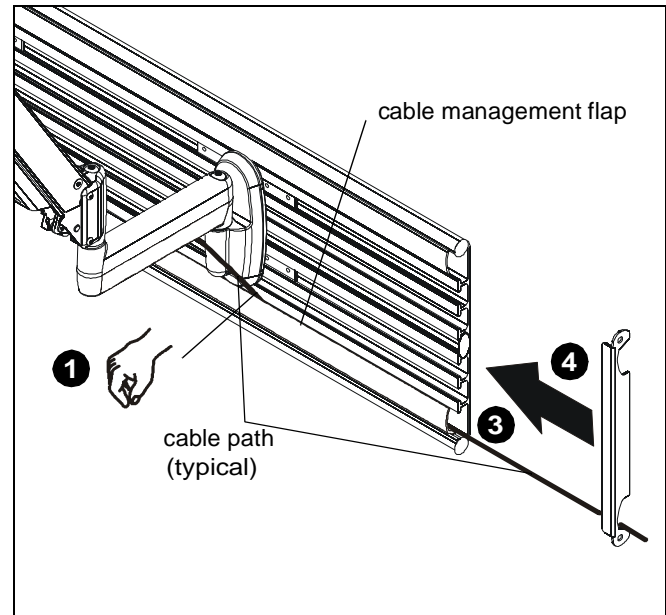

Figure 55
- Tuck cable inside cable management flap. (See Figure 55)
- Pull cable through cable management flap until cable outlet plug extends outside the wall track accessory. (See Figure 55)
- Reinstall side cover making sure the cable runs through the cable hole. (See Figure 55)